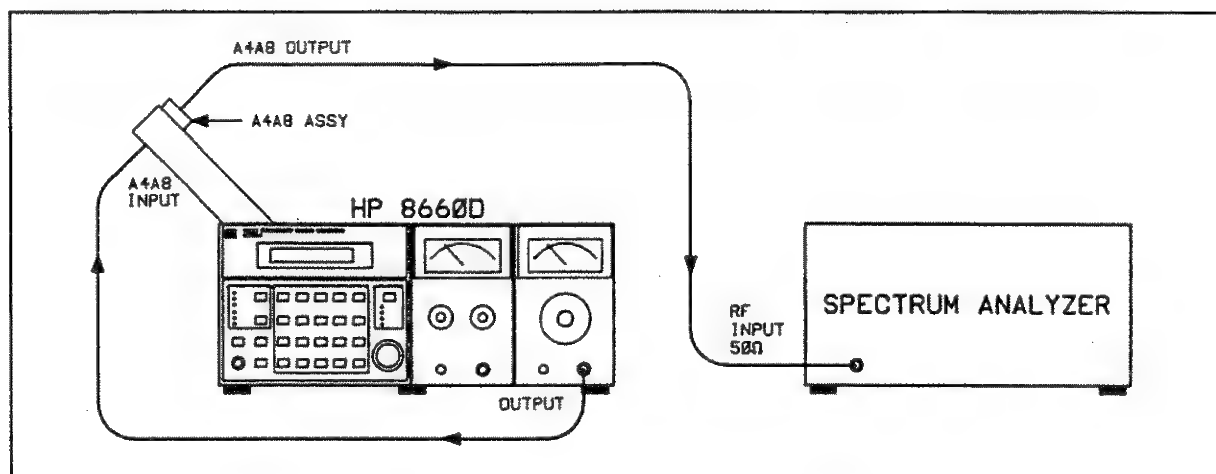

Figure 5-7. 100 MHz Band-pass Filter Adjustment Test Setup
- j. Connect the equipment as shown in Figure 5-7. If necessary, readjust the analyzer controls to center the 100 MHz signal on the display.